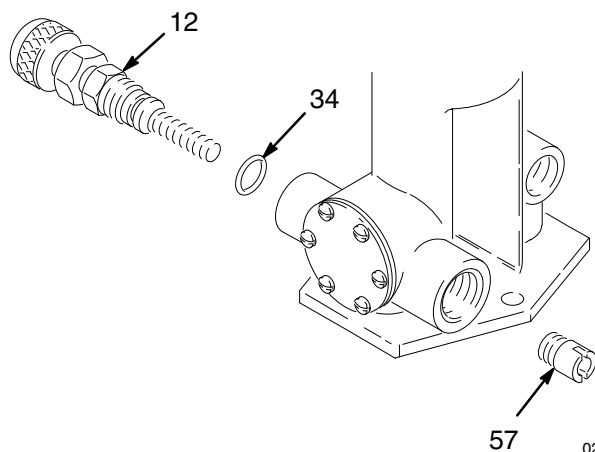

FIG. 8
1. Remove the stem (12) and o-ring (34) from the base. See Fig. 8.
2. Remove the seat (57) from the pump return port with a screwdriver.
- 2 Minimum 0.8 mm (0.032 in.) clearance between washer (37) and piston shaft shoulder.